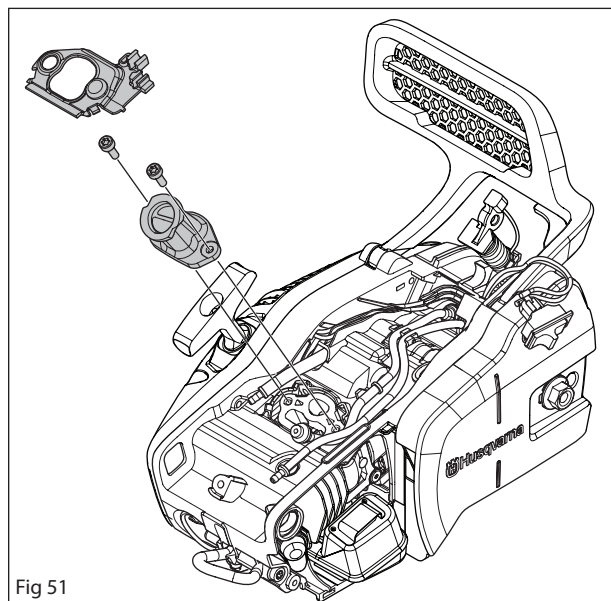

Fig 51
12. Remove the inlet pipe. Remove the screws and lift up the intake manifold. See Figure 51.